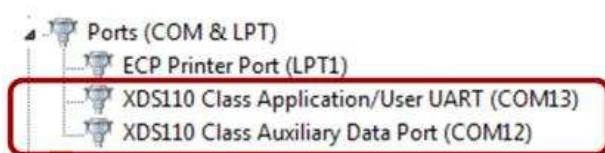

Figure 4-1. Device Manager
3. When the XDS110 driver is installed, the device displays with one com port (XDS110 Class Application/User UART), as in Figure 4-1.